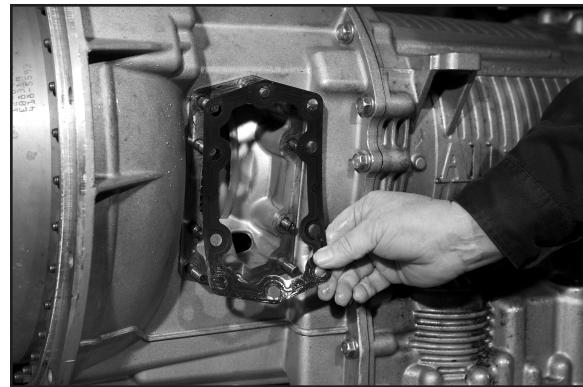

Figure 11
9. Install the special gasket over the guide pins. The ribbed surface should face outward, toward the installer (**Fig. 11**).